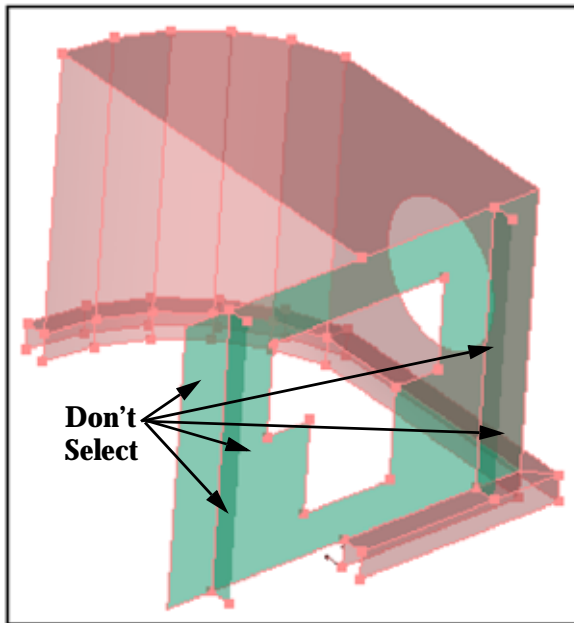

Figure 47: Entities selected for reflecting
- 4.1. Select all the regions that only create half of the part, as shown in Figure 47.